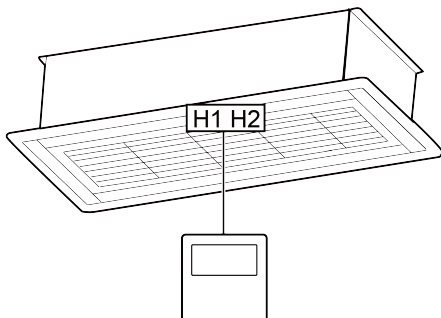
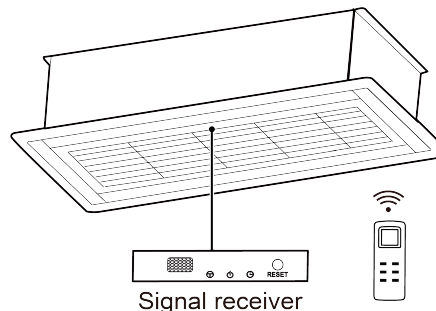

Fig.5.4.1
Fig.5.4.2
- 1) Wired controller (optional) is shown as Fig.5.4.1, remote controller (standard) is shown as Fig.5.4.2, signal receiver is provided with panel as standard accessory.